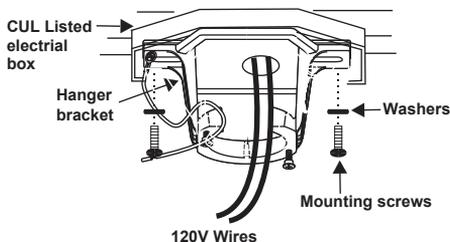

Figure 7
Step 1. Pass the 120-volt supply wires through the center hole in the ceiling hanger bracket as shown in Fig. 7.